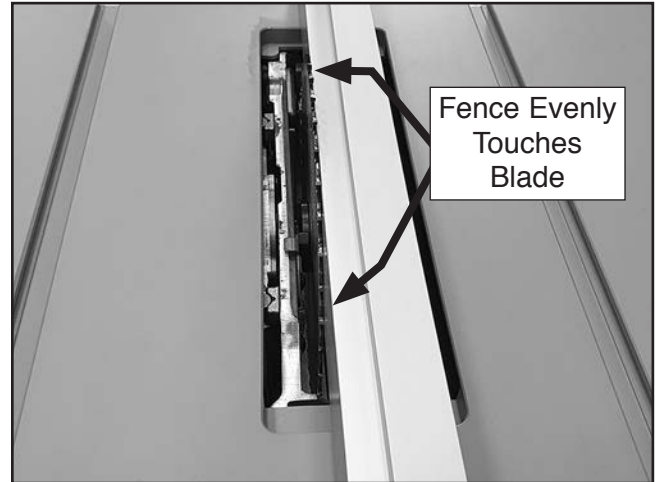

Figure 3. Fence properly aligned with blade.
5. Using a combination of turning fence adjustment knob and moving fence body by hand, adjust fence so that it evenly touches blade along its entire length, as shown in **Figure 3**.